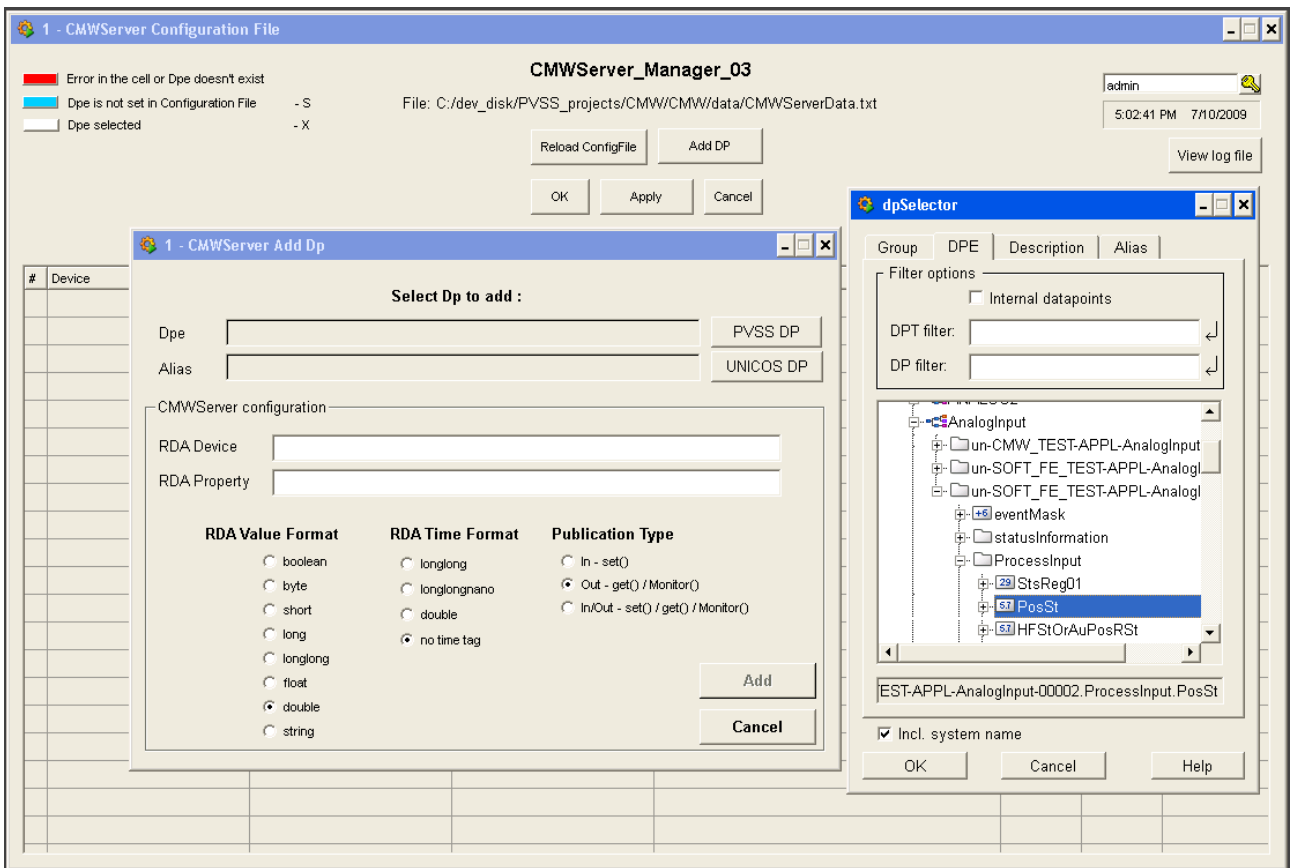

Figure 14: add device/property PosSt.
- click on Manage file; in the configuration file panel click add DP; click on PVSS DP and select the last AnalogInput device PostSt DPE (Figure 14 and Figure 15) set Publication Type='in/out' (get/monitorOn and set), device='AI', property='PosSt', RDA Value Format='float', RDA Time Format='longlongnano'; click on PVSS DP again and select the last AnalogInput device MPosR DPE (Figure 16 and Figure 17) set Publication Type='out' (get/monitorOn), device='AI', property=' MPosR', RDA Value Format='float', RDA Time Format='longlongnano'. An example of the configuration file is in the folder unicos-pvss-5.0.1b/PVSS/data.